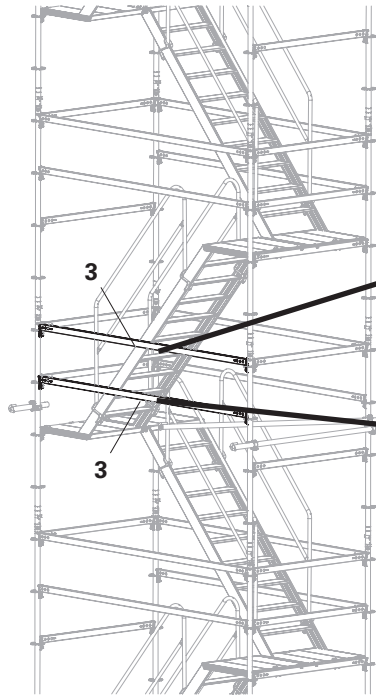
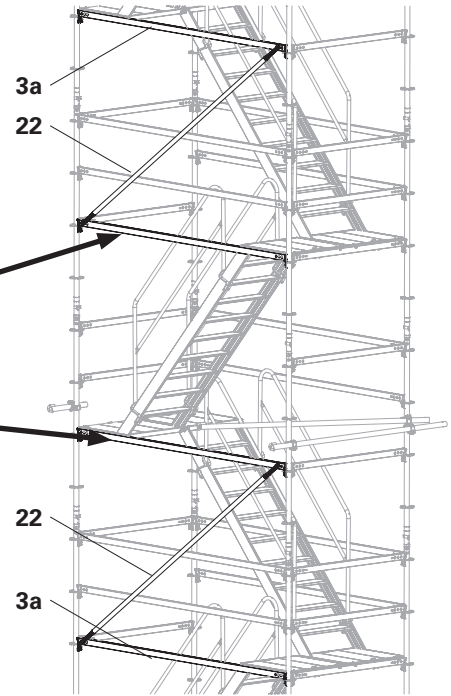

Fig. B7.01
Fig. B7.02
- Fit Ledger Braces UBL-2 (**22**) onto the floors above and below. (Fig. B7.01 + Fig. B7.02)